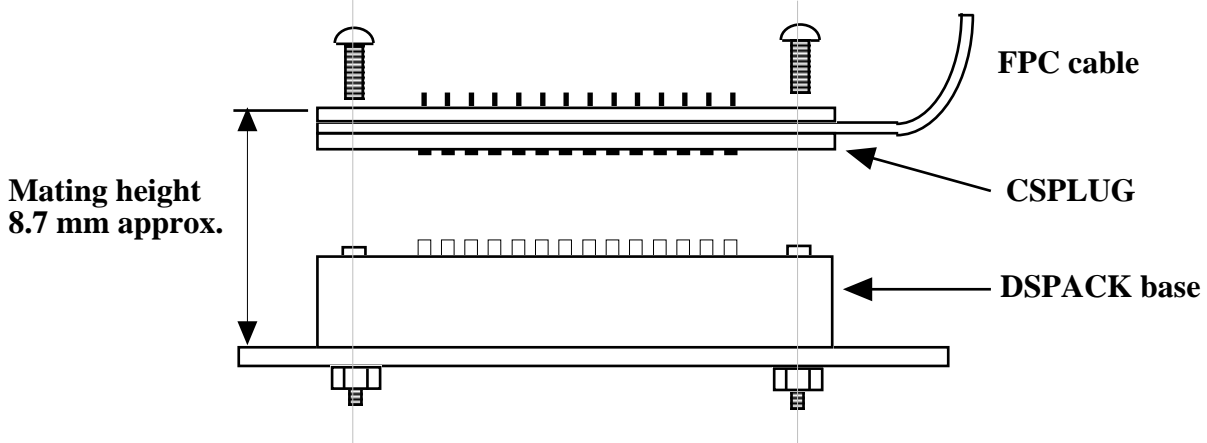

Fig 6. ICE cable connection to DSPACK with CSPLUG
1. ICE cables can be connected to DSPACK base using CSPLUG as shown Fig 6.